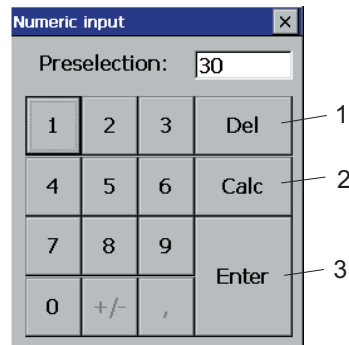

Fig. 24 Input keyboard
4. Enter a numerical value. You can correct an incorrect entry by pressing the *Del* key (Fig. 24/1). Calculator functions for calculating the fold length can be activated by touching the *Calc* key (Fig. 24/2).
5. Touch the *Enter* key (Fig. 24/3) when the entry is completed.